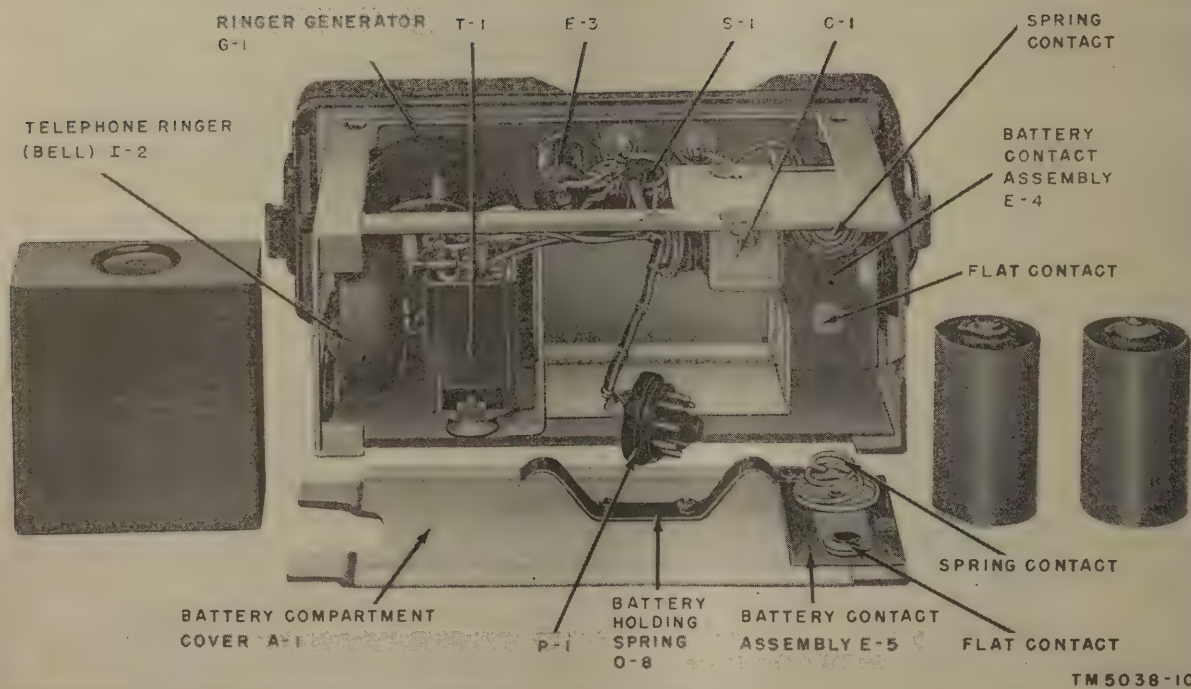

Figure 62. Remote Control C-433/GRC, rear view of chassis.
- d. Install two 1½-volt Batteries BA-30 in the compartment provided for them in the left rear of the chassis frame (fig. 62). Install one battery in the compartment so that the bottom of the battery outer case (negative electrode) rests over the spring contact on the battery compartment floor. Install the second battery so that the center post (positive electrode) of the battery rests on the flat contact of the battery compartment floor.
1) to the BELL position (fig. 62) if audible indication of the ringing signal is desired. Set this switch to the LAMP position if a visual indication of the ringing signal is desired.